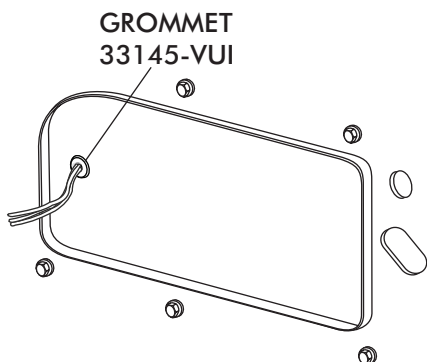

FIGURE 17
- ROUTE A/C WIRES THROUGH 3/8" GROMMET AS SHOWN IN FIGURE 17 (12 VOLT/ GROUND/ BINARY SWITCH/ HEATER VALVE).